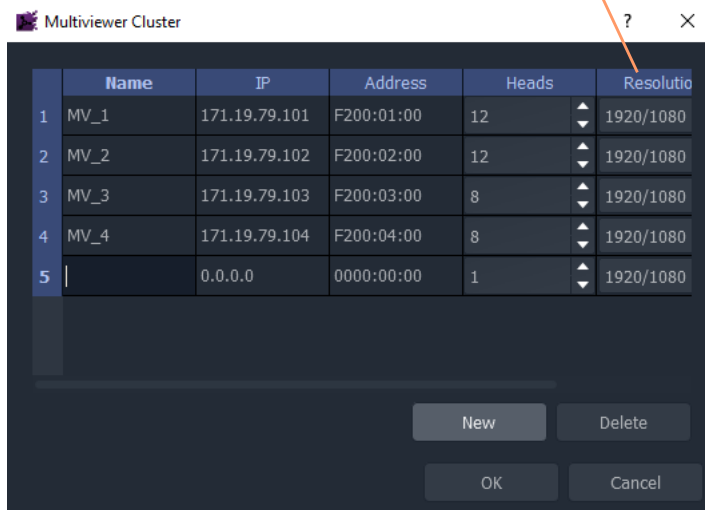

Fig. 7-23: Multiviewer Cluster Dialog- Adding New Multiviewer Device
- 1 Click **New** to add the information about each multiviewer of the cluster. See Figure 7-23.